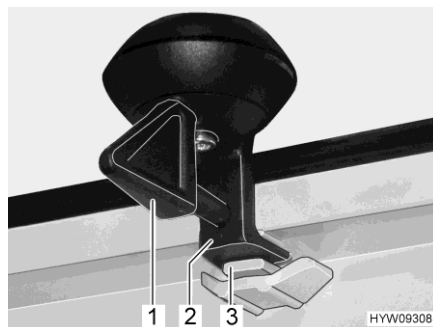

Fig. 52 Lock (ventilation position)
- Turn the lever (Fig. 52,1) one quarter turn. The lock (Fig. 52,2) must slide into the top recess (Fig. 52,3).